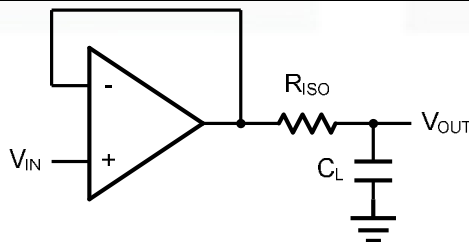
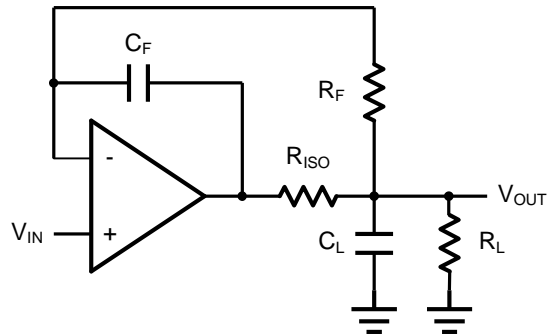

Figure 2. Indirectly Driving a Capacitive Load Using Isolation Resistor
Figure 3. Indirectly Driving a Capacitive Load with DC Accuracy
The GS8632C is optimized for bandwidth and speed, not for driving capacitive loads. Output capacitance will create a pole in the amplifier's feedback path, leading to excessive peaking and potential oscillation. If dealing with load capacitance is a requirement of the application, the two strategies to consider are (1) using a small resistor in series with the amplifier's output and the load capacitance and (2) reducing the bandwidth of the amplifier's feedback loop by increasing the overall noise gain. Figure 2. shows a unity gain follower using the series resistor strategy. The resistor isolates the output from the capacitance and, more importantly, creates a zero in the feedback path that compensates for the pole created by the output capacitance.
The circuit in Figure 3 is an improvement to the one in Figure 2. R_F provides the DC accuracy by feed-forward the V_{IN} to R_L . C_F and R_{ISO} serve to counteract the loss of phase margin by feeding the high frequency component of the output signal back to the